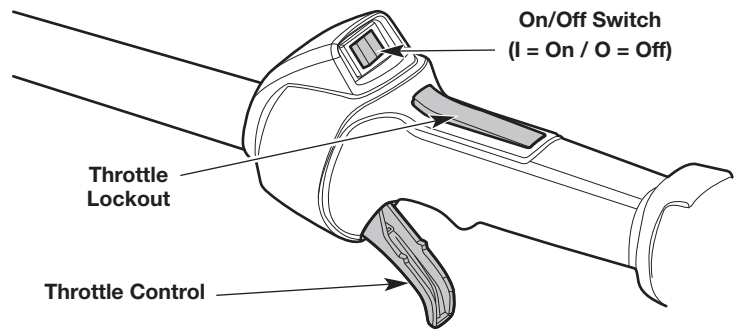

Fig. 9
**NOTE:** There is no need to turn the unit on. The On/Off switch is in the **On (I)** position at all times (Fig. 9).
4. Press and hold the throttle lockout. Squeeze and hold the throttle control (Fig. 9).
2. Press and hold the On/Off switch in the **Off (O)** position until the engine comes to a complete stop (Fig. 9).